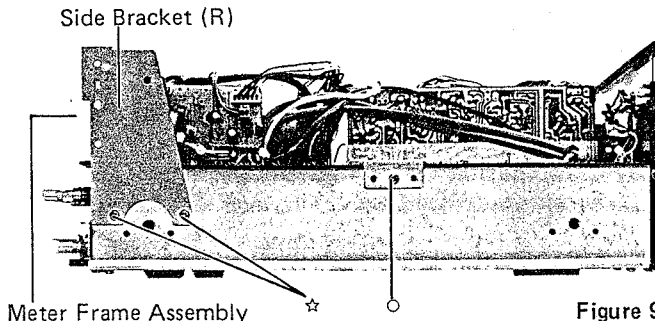

Figure 9
- (1) Remove two screws marked "☆" from the side bracket (R) as shown in Figure 9.
- (2) Disconnect all wires from the meter frame assembly.
- (3) The meter frame assembly with lamp P.C. Board and LED P.C. Board can be completely removed from the chassis.
- (2) Remove four screws marked "○" as shown in Figures 9 and 10.